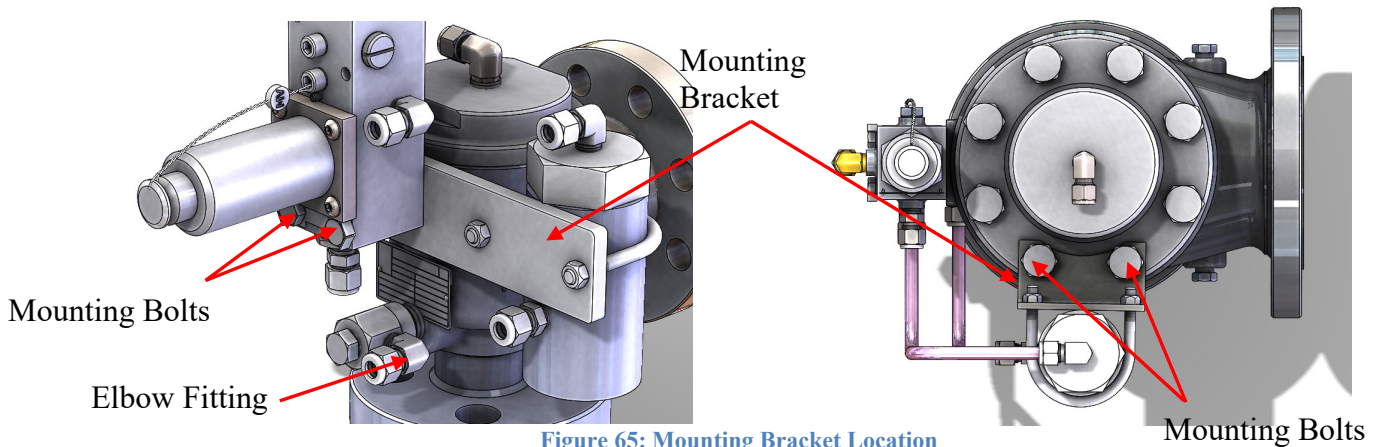

Figure 65: Mounting Bracket Location
6. Install the 3/8” tube to 1/4” NPT elbow fitting included in the kit into the pressure probe. See Figure 65.
- a) **Threaded Bonnets:** Install the bracket in between the pilot and the main valve with the new bolts supplied in the kit. See Figure 65.
- b) **Bolted Bonnets:** Install the bracket on top of the bonnet of the main valve with the new bolts supplied in the kit. See Figure 65.